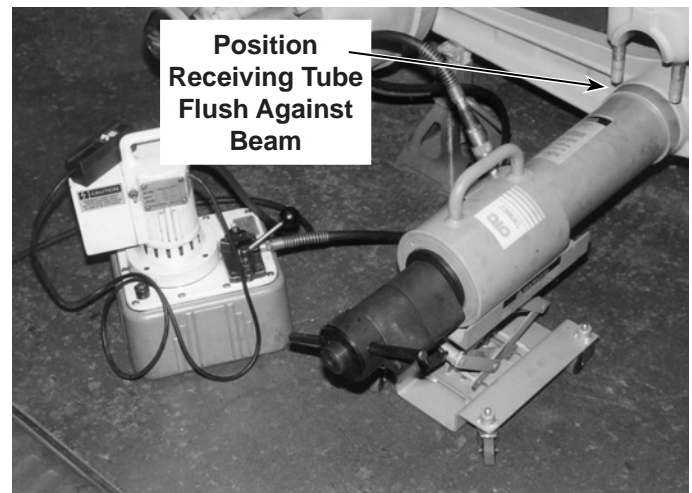

Figure 5
7. Slide the cylinder screw through the bushing. Advance the cylinder and dolly assembly until the cylinder receiving tube is flush against the beam face. See Figure 5.